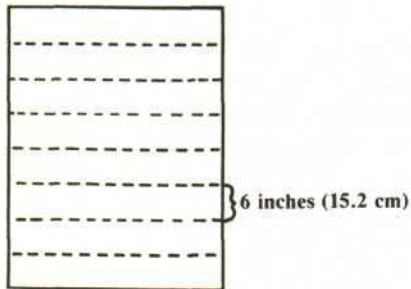

Figure 2. Stitch lines for tucks.
8) Mark horizontal lines across the lining side with chalk starting 6 inches (15.2 cm) from hem. Continue marking 6 inches (15.2 cm) up the entire shade. Sew on chalk lines across the panel (Figure 2).